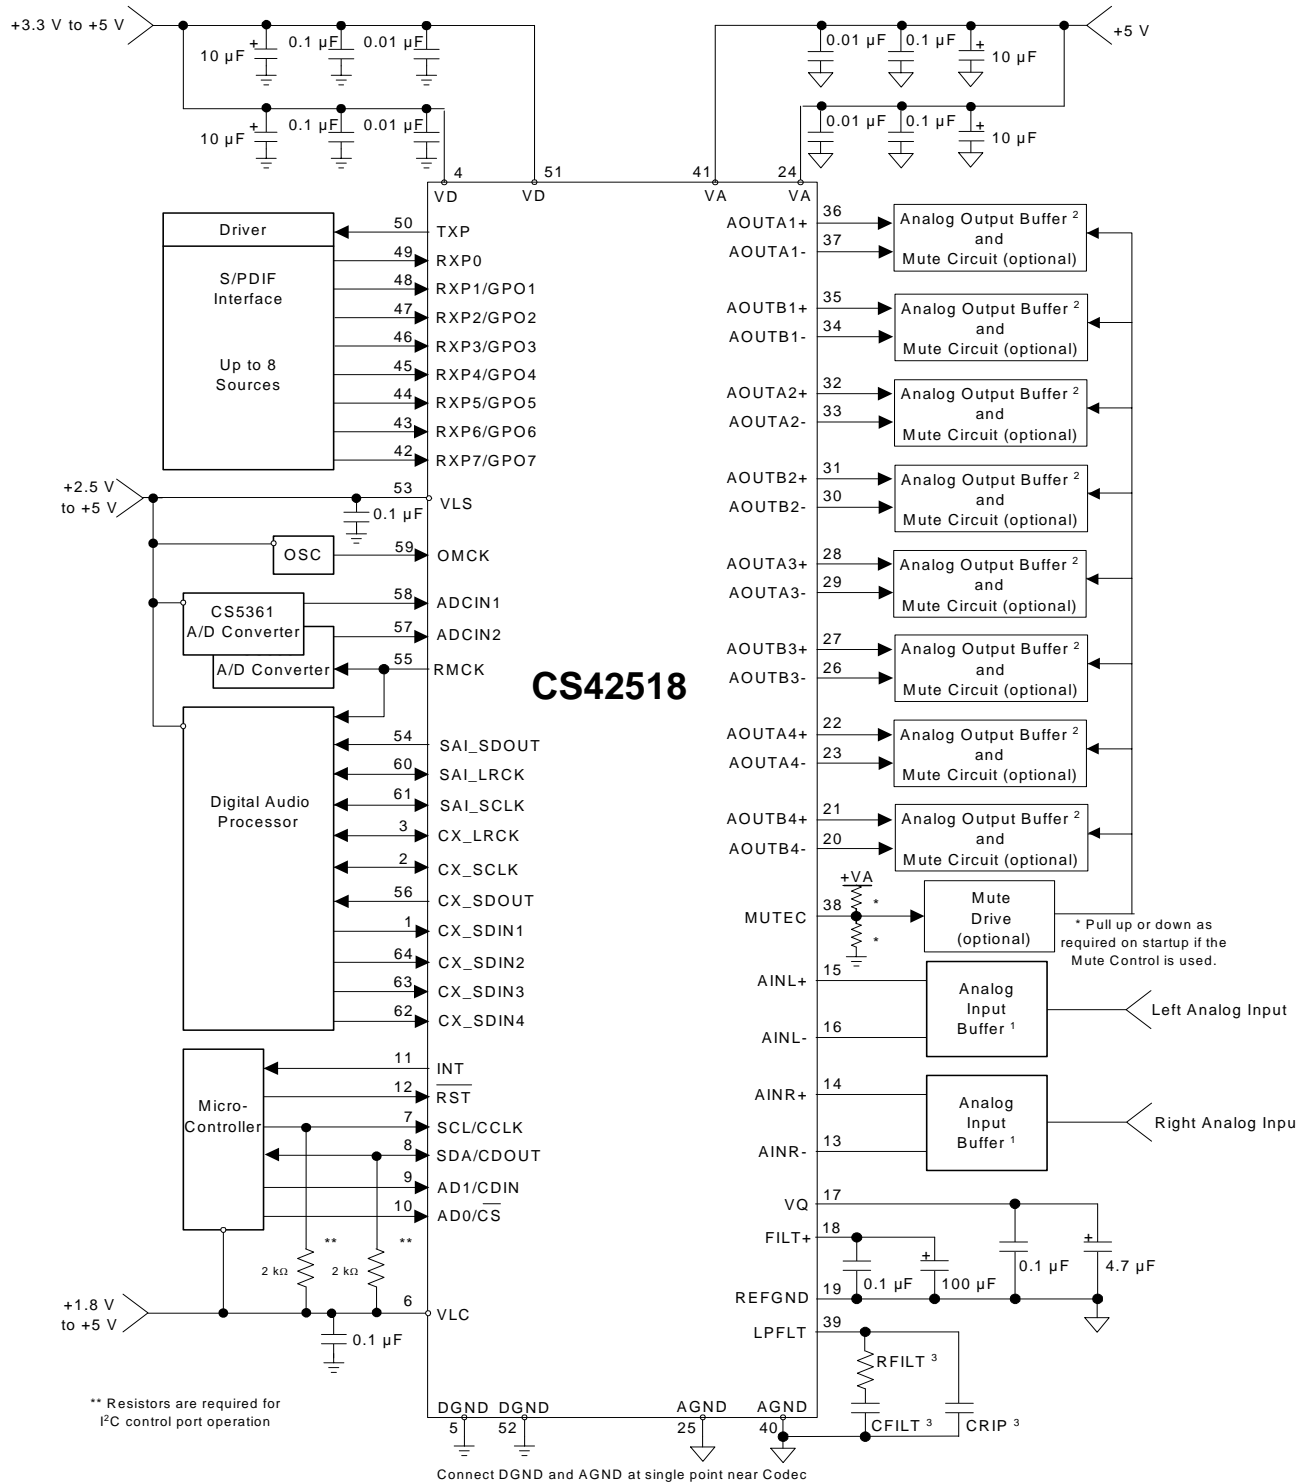
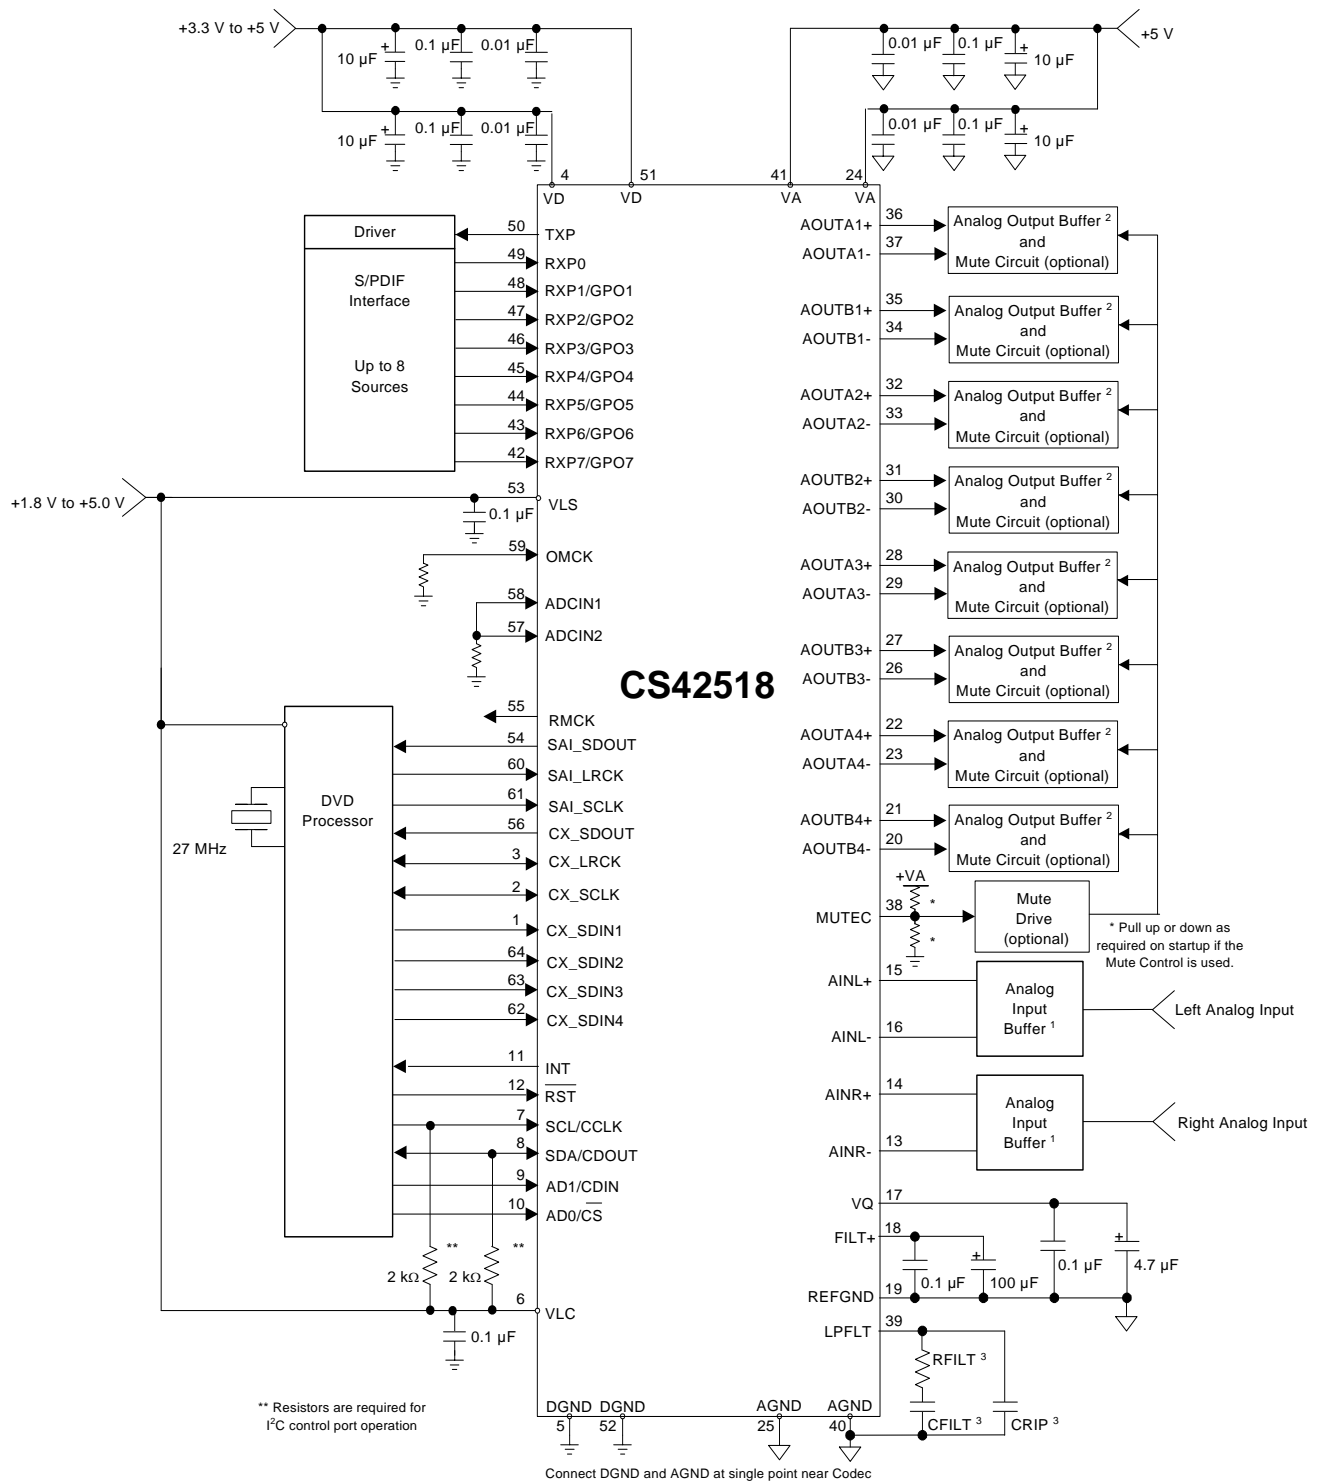

Figure 5. Typical Connection Diagram
Figure 6. Typical Connection Diagram with PLL
25. Valid with the recommended capacitor values on FILT+ and VQ as shown in Figure 5.
The CS42518 is a highly integrated mixed signal 24-bit audio codec comprised of 2 analog-to-digital converters (ADC), implemented using multi-bit delta-sigma techniques, 8 digital-to-analog converters (DAC) and a 192 kHz digital audio S/PDIF receiver. Other functions integrated within the codec include independent digital volume controls for each DAC, digital de-emphasis filters for DAC and S/PDIF, digital gain control for ADC channels, ADC high-pass filters, an on-chip voltage reference, and an 8:2 mux for S/PDIF sources. All serial data is transmitted through two configurable serial audio interfaces with standard serial interface support as well as enhanced one line modes of operation allowing up to 6 channels of serial audio data on one data line. All functions are configured through a serial control port operable in SPI mode or in I²C mode. Figure 5 and Figure 6 show the recommended connections for the CS42518.